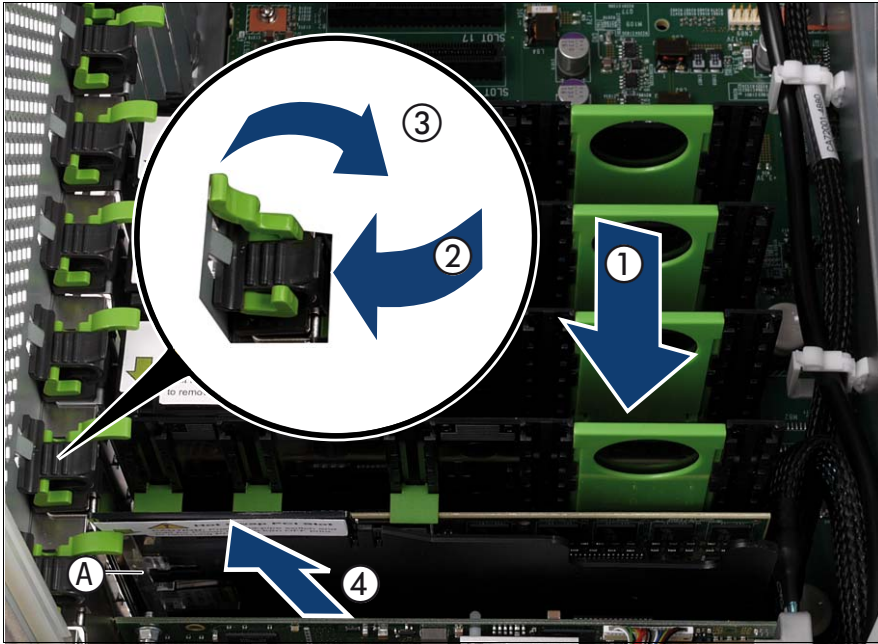

Figure 69: Inserting the expansion card in the slot
- ▶ Carefully insert the removal tool together with the expansion card in the slot (1).
- ▶ Insert the slot lock (2) and relock the slot (3).
- ▶ Close the hot-plug slot (4).
- ▶ Activate the expansion card using either the related PCI hot-plug software or by pressing the light-pipe switch, see A in Figure 69.